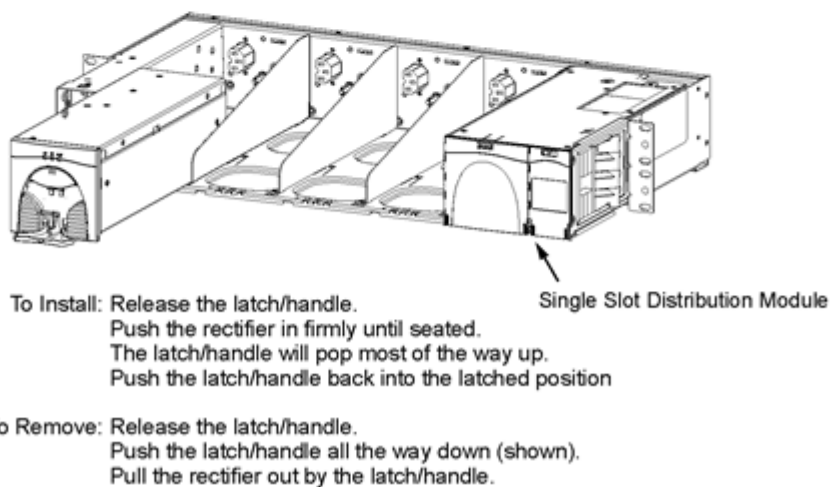

Figure 11: Rectifier Installation
1.	Before engaging the rectifier connector into the back of the rectifier slot, press the Latch release button, the latch will spring open. See Figure 11.